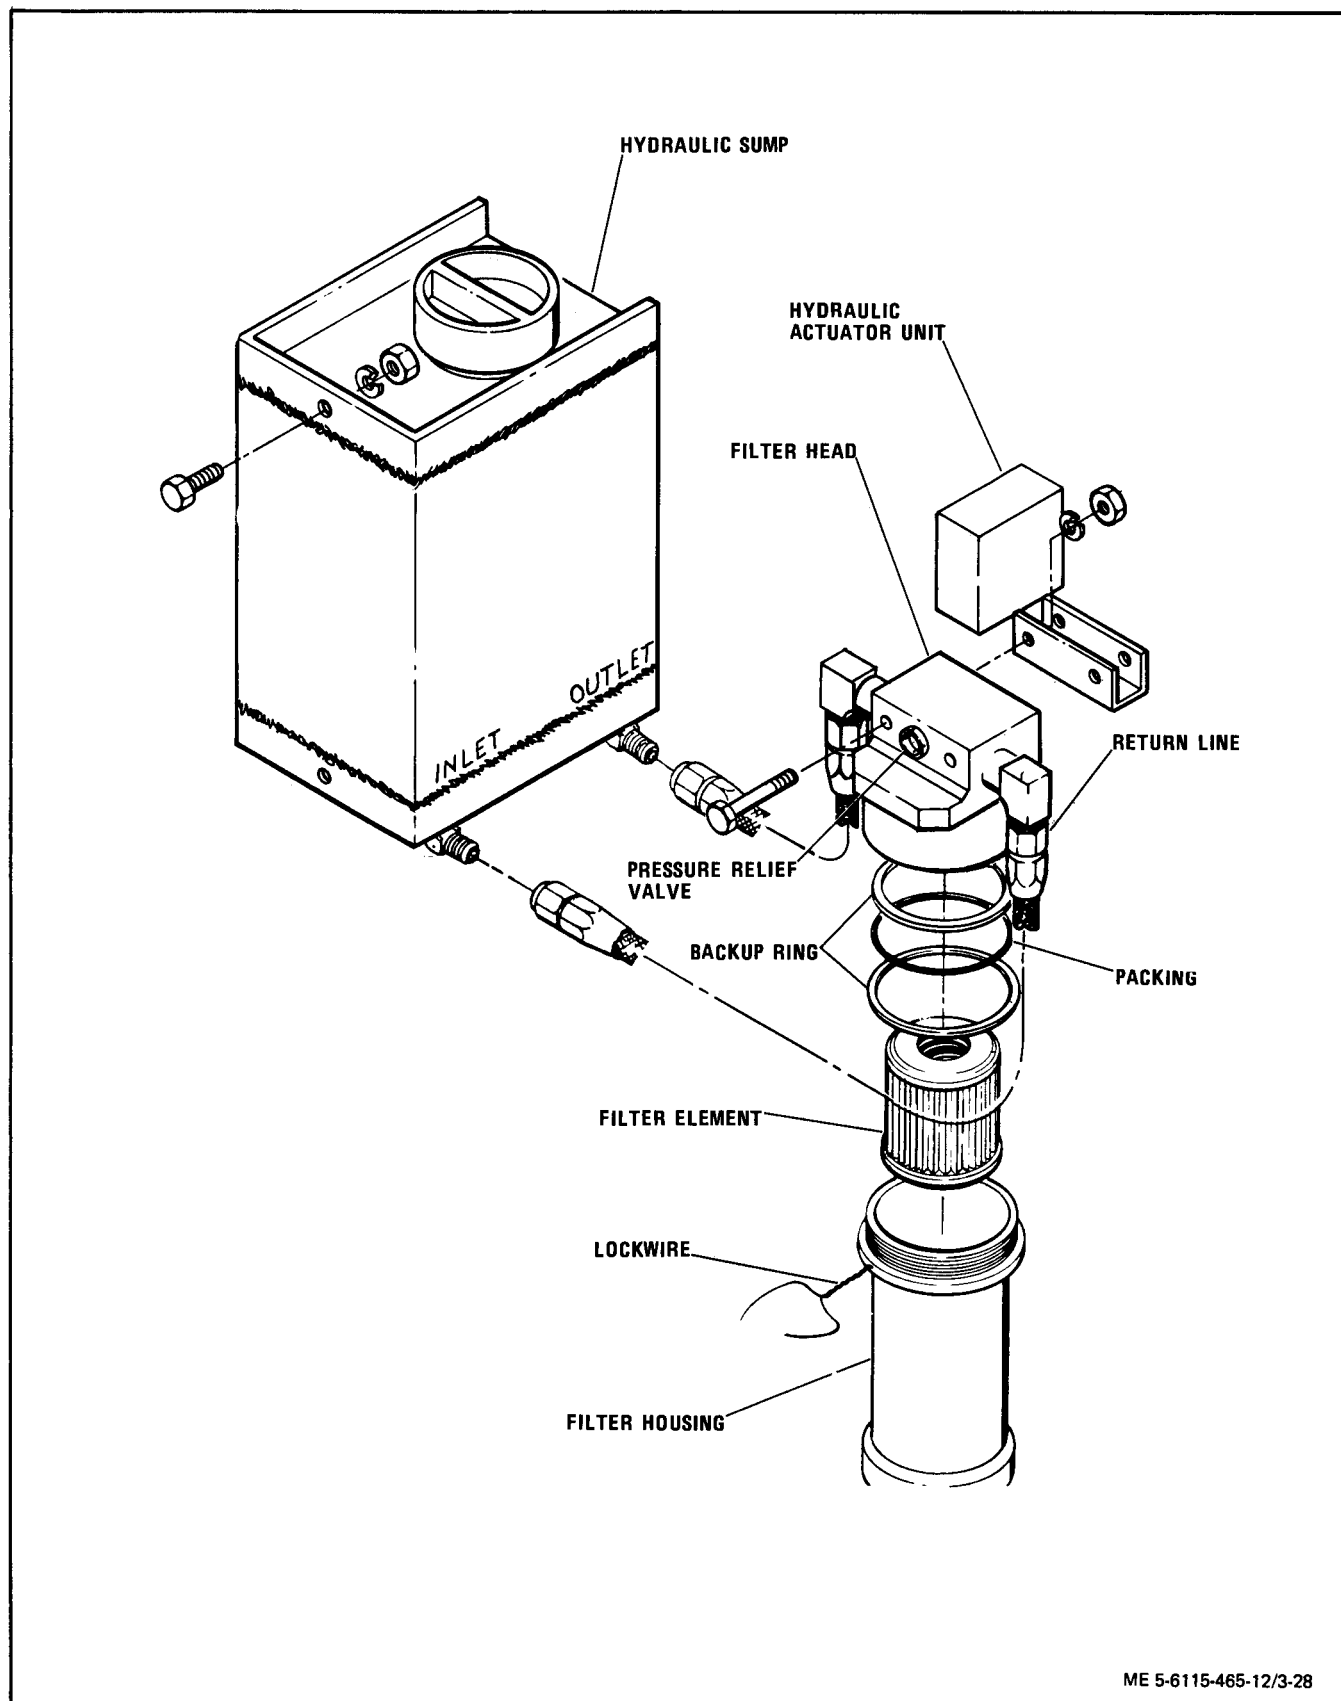

Figure 3-28. Hydraulic Sump and Filter Service
- a. Disconnect return line from hydraulic actuator unit and allow the oil to drain into a suitable container (figure 3-28).